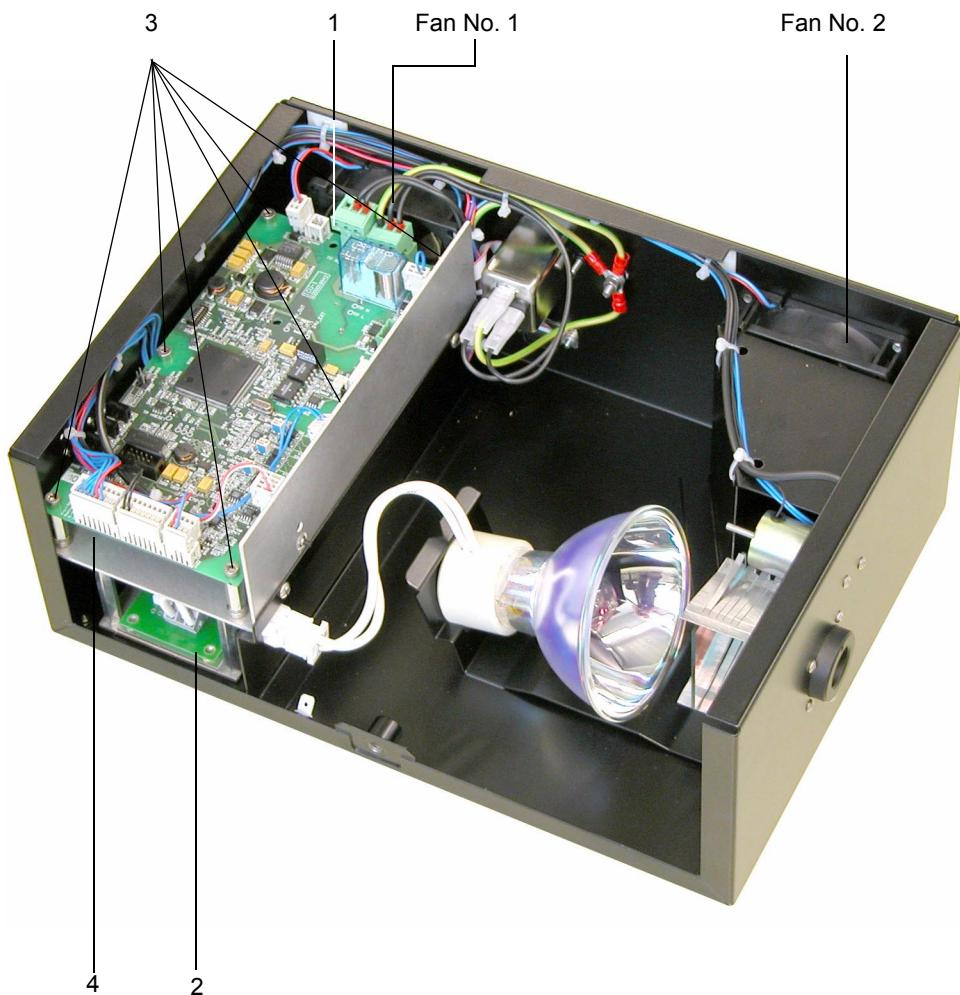
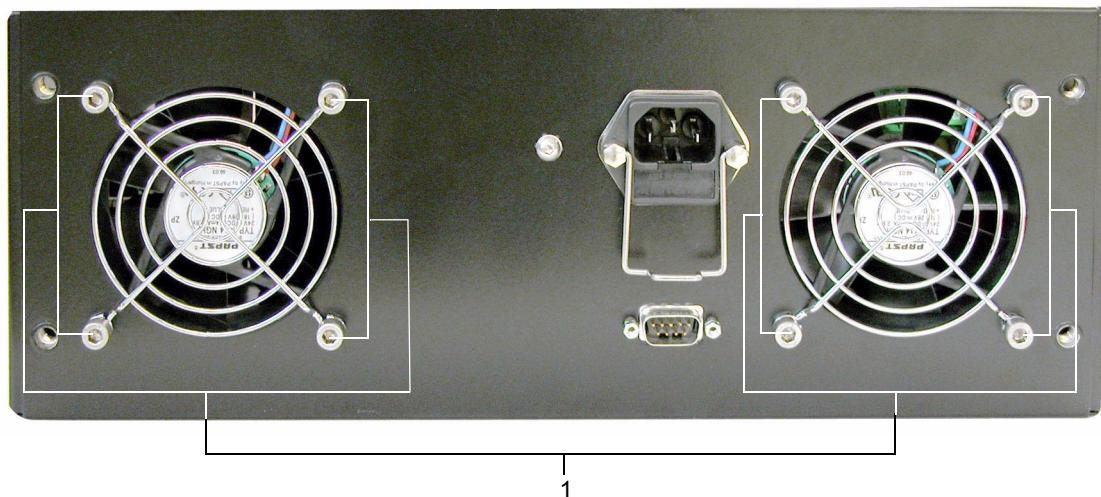
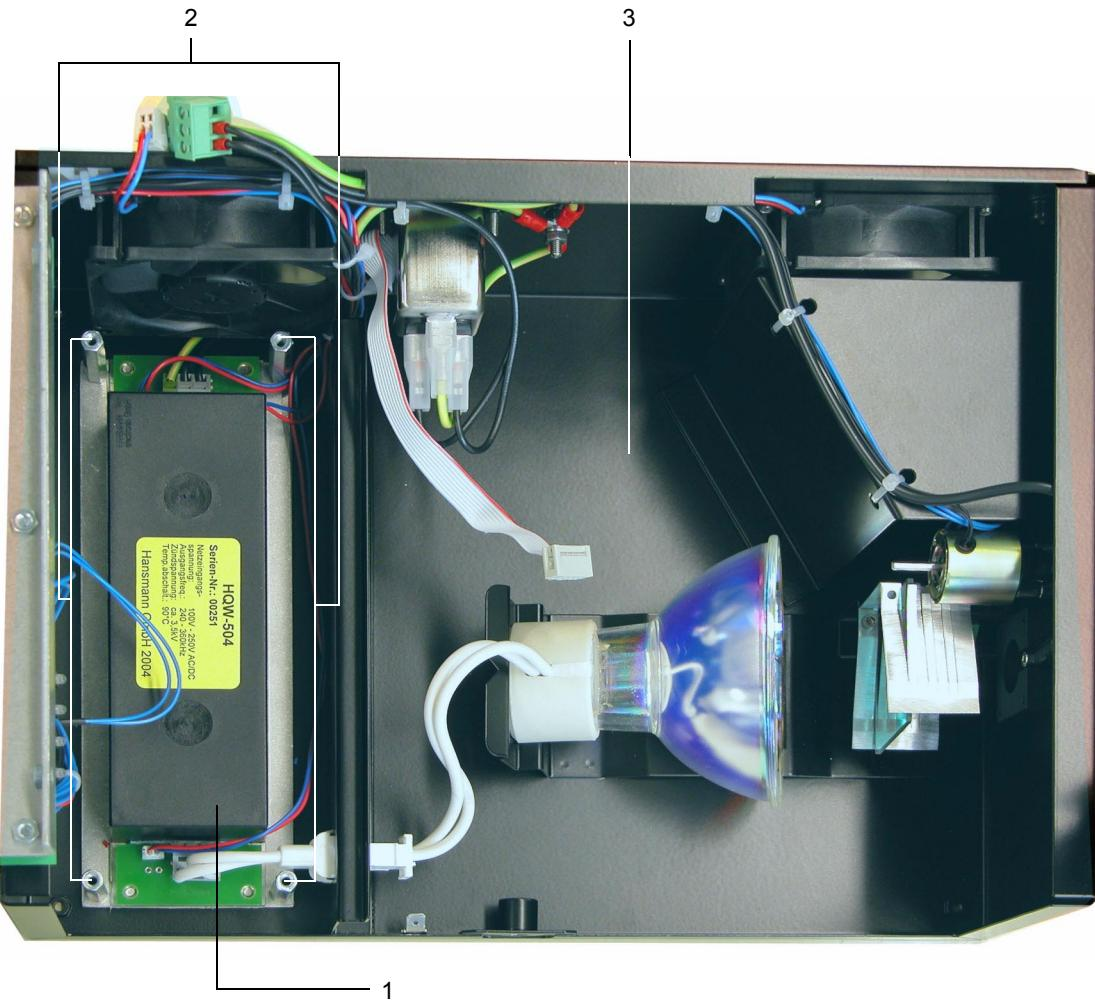

Fig. 19: Replacing a Ventilation Fan
Fig. 20: Mounting Screws for the Fans at Rear Side
Fig. 21: Power Supply Unit
7. **Fig. 19:** Disconnect the 24 V DC power supply of the fan to be changed. The power supply connectors for both fans are on different locations in the illumination module:
8. **Fig. 20:** Unscrew and remove the four mounting screws (1) together with the ventilation grilles of the respective fan.
10. Insert and fasten the four mounting screws (1) together with the ventilation grille.
11. Reconnect the 24 V DC power supply of the fan. If you have changed fan no. 2, reinstall the ICU mounting plate and fasten its six mounting screws (**Fig. 19 (3)**).
7. **Fig. 19:** Remove the ICU mounting plate (4) by unscrewing its four mounting screws (3). Now you can access the power supply unit (3).
8. **Fig. 21:** Disconnect all plugs connected to the power supply unit (1).
9. Unscrew and remove the four standoff screws (2) which fasten the power supply's mounting plate to the illumination module housing (3).
10. Remove the power supply unit (1) from the illumination module housing (3). In case you install a power supply unit of an older making, that comes without a mounting plate, proceed as follows:
12. Insert and fasten the four standoff screws (2).
14. **Fig. 19:** Install the ICU mounting plate (4) in its original position.
15. Fasten the six mounting screws (3) of the ICU mounting plate.